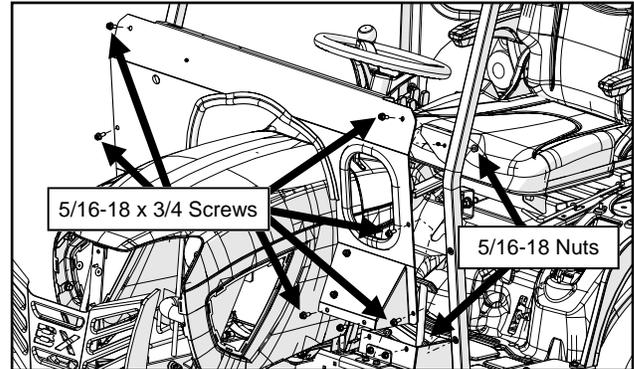
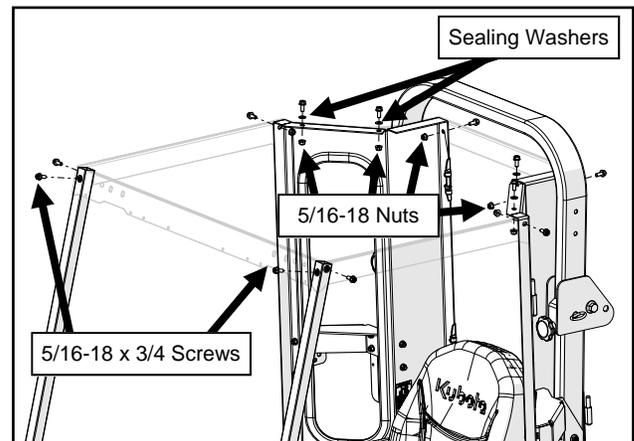

Fig. 7.1 (Install Cowl)
Fig. 9.2 (Install Roof)
- 7.1 With assistance, slide the cowl over the top of the hood and engine side covers using **CAUTION** not to scratch the plastic components. Secure the cowl to the A-pillars with hardware listed below. See Figure 7.1.
- 9.2 With assistance, set the roof on top of the A-pillars and rear legs. See Figure 9.2. Loosely secure with sealing washers on the four (4) screws through the top of the roof into the rear legs. The A-pillars and rear legs should be loose enough to move into place on the roof.
For 5/16" bolts (qty.: 4 on the Cowl) that thread into factory installed threaded inserts in the A-Pillars, use 20 foot-pounds. Ref.: fig. 7.1 on page 7. Typical for the 4 Roof bolts that also thread into factory installed threaded inserts. Ref.: fig. 9.2 on page 7.
For 5/16" bolts (qty.: 4 on the Roof) that use plastic washers, use only 12.5 foot-pounds. Ref.: fig. 9.2 on page 7.